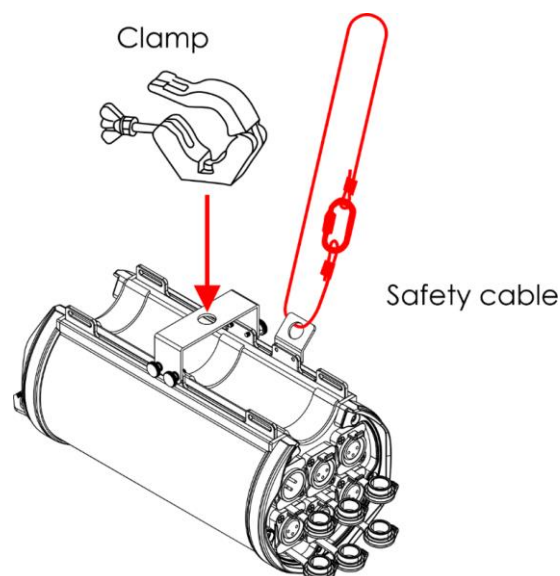

Fig. 06
- 01) Use a clamp to attach the device to the supporting structure, as shown in Fig. 06. Make sure that the device cannot move freely.
- 02) Secure the device with a secondary suspension, for example a safety cable. Make sure that the secondary suspension can hold 10 times the weight of the device. If possible, the secondary suspension should be attached to a supporting structure independent of the primary suspension. Put the safety cable through the **safety eye (16)**, as shown in Fig. 06.